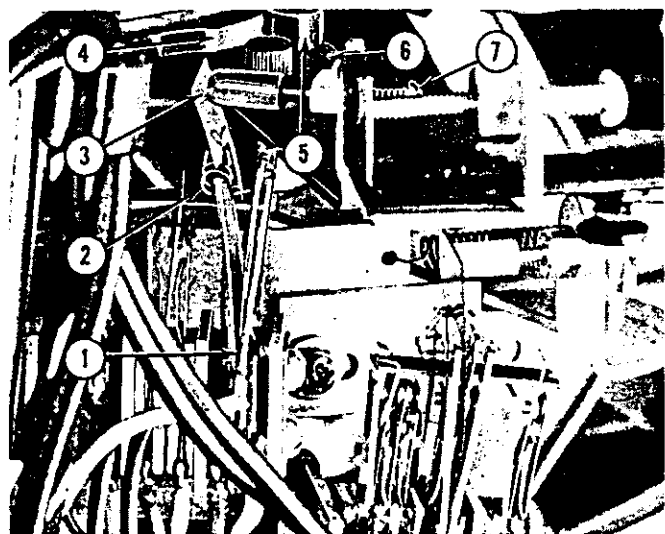

Fig. 67. TRANSFER SWITCH ADJUSTMENT
d. Transfer Switch Adjustment. (Fig. 67)
The transfer switch is mounted on the chassis casting and is located under the record changer motor at the rear of the phonograph. The transfer switch actuating arm has two adjusting screws, one of which regulates the tension of the needle brush actuating cable and the other regulates the amount of throw used to actuate the transfer switch. The transfer switch actuating arm (Item 6, Fig. 67) is pivoted on the chassis casting and is operated by the lateral lobe (Item 4) on the main cam. An approved method for adjusting the transfer switch is described below: